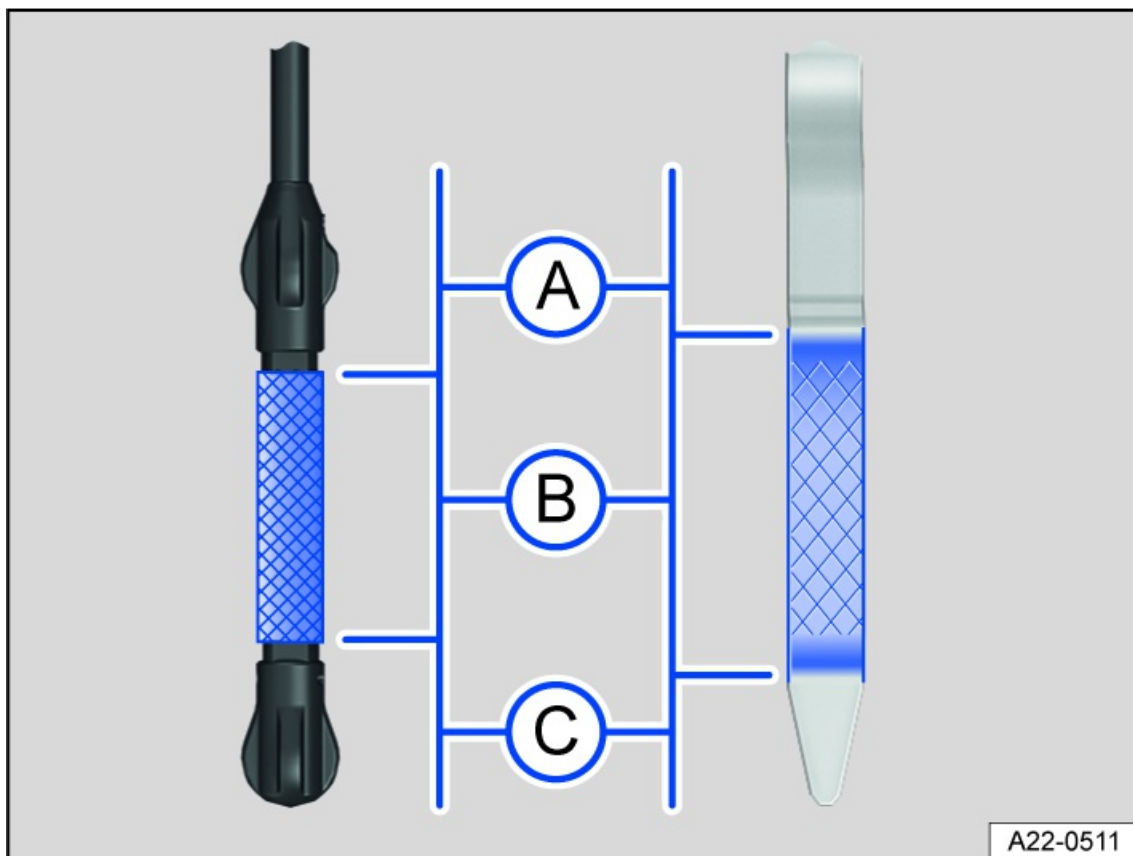

Fig. 167 Engine oil level markings on the oil dipstick (versions).
3. Remove the dipstick again and read the oil level on the dipstick as described below *fig. 167*:
When you are done adding oil, the oil level should be in the center of area *fig. 167* . The engine oil level must not be the area *fig. 167* .
5. If you accidentally add too much engine oil and the engine oil level is in area *fig. 167* , do not start the engine ⇒ . Contact an authorized Volkswagen dealer or authorized Volkswagen Service Facility for assistance.